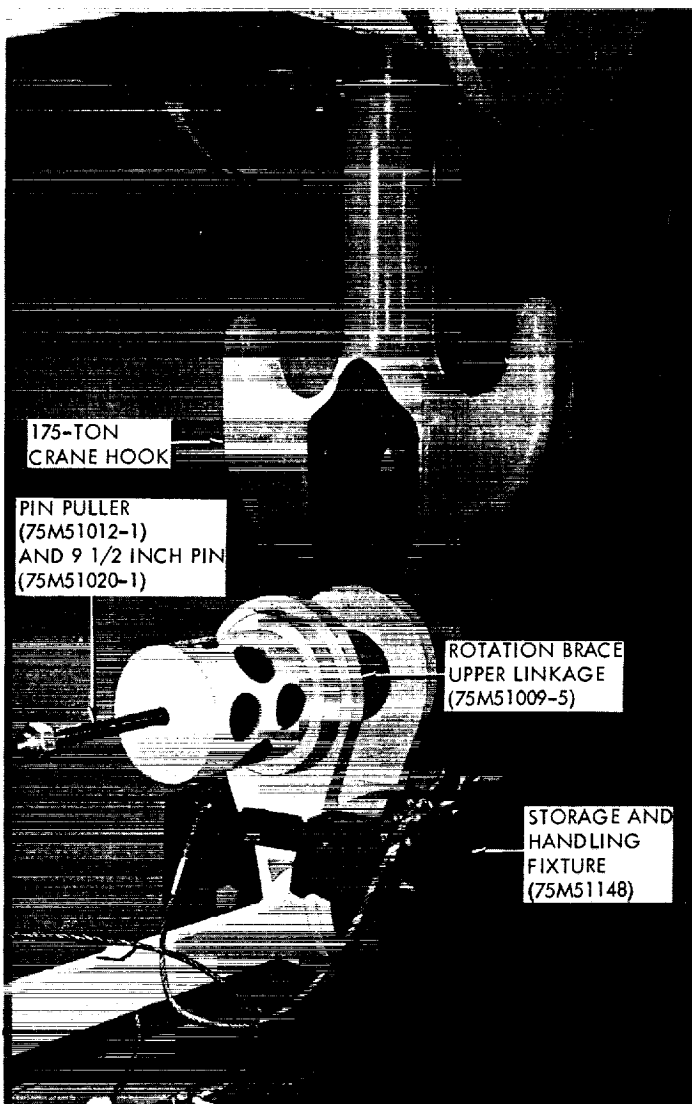

Figure 4-1. Aft Lifting Equipment
4-4. S-IC STAGE AUXILIARY HANDLING FITTINGS - UTILIZATION. Utilize auxiliary handling equipment where crane service and overhead clearance permit per figure 4-1 and 4-2 as follows:
- a. Attach rotation brace upper linkage (75M51009-5) to a 175 ton crane hook at the aft end of S-IC stage. Use previously installed 9 1/2 inch pin (75M51020-1) and pin puller (75M51012-1) per figure 4-1.